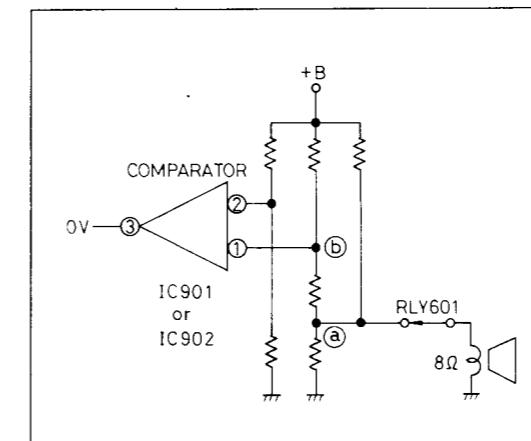

Fig. 3
2. If speakers with an impedance of 8Ω or more are to be connected to the left and right "MAIN" or "REMOTE" speaker terminals (Fig. 3).